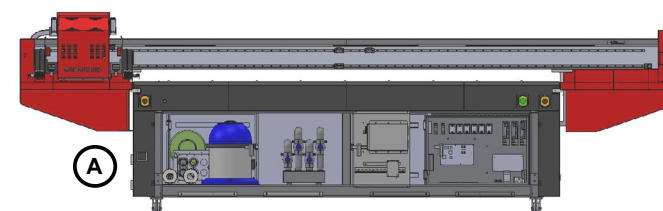

Figure 3-8 Access Waste Cabinet
1. Open the door on rear of printer to access the waste cabinet (Figure 3-8, A).